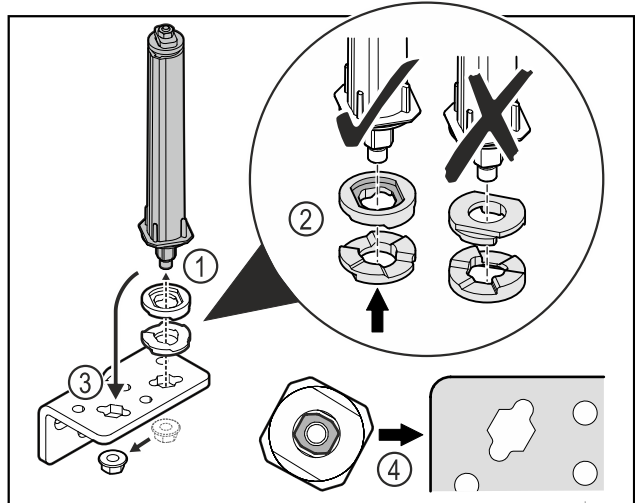

Fig. 36
- Loosen the nut and remove the door closing system Fig. 36 (1).
- Observe the correct alignment of the height adjustment washers Fig. 36 (2).
- Put the door closing system in the hinge and fix in place with the nut Fig. 36 (3).
- Observe the correct alignment of the door closing system when doing so Fig. 36 (4).